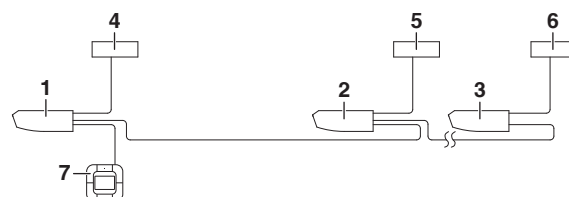

Fig. 27
- When using as a pair unit, you may carry out simultaneous start/stop (group) control up to 16 units with the remote controller. (Refer to **Fig. 27**)
- (1) Remove the control box lid. (Refer to "9. WIRING EXAMPLE AND HOW TO SET THE REMOTE CONTROLLER".)
- (2) Connect crossover wiring between the terminals (P1, P2) inside the control box for the remote controller. (There is no polarity.) (Refer to **Fig. 27**)